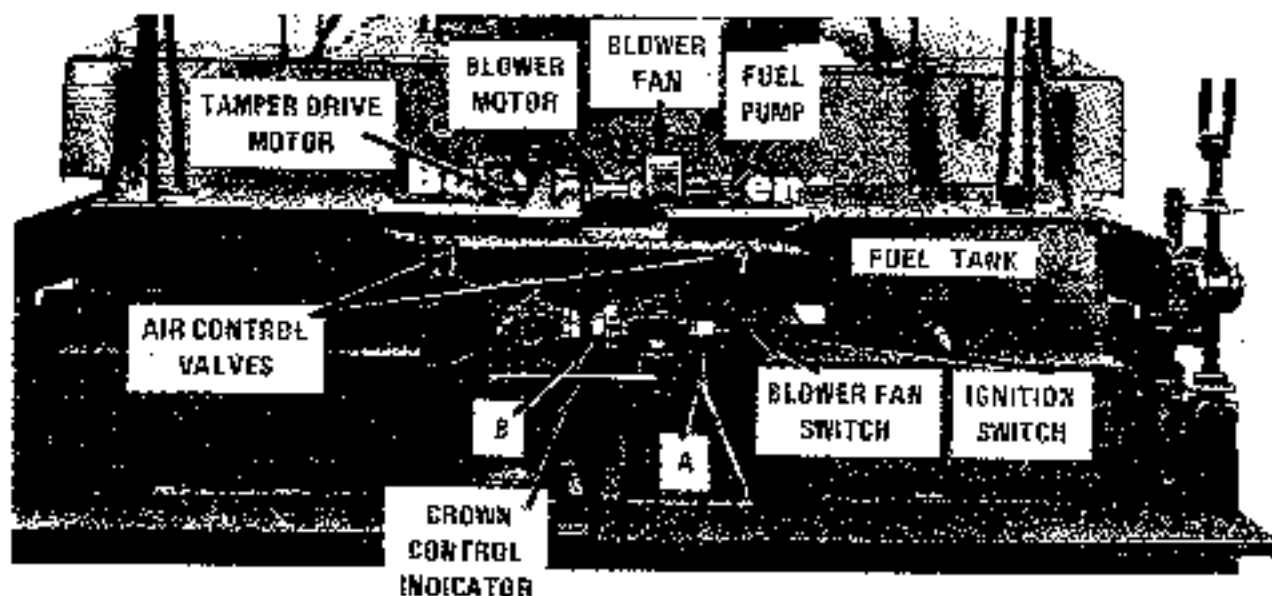

FIGURE C-7 - Screed Heater Controls And Crown Control
TO OPERATE SCREED HEATER (BLOWER, BURNER & BURNER IGNITER) (Refer to Figure C-7.)
For proper combustion in the burner, a #1 or #2 diesel fuel oil is recommended. (Preferably #1). The burner fuel is stored in the right hand tank on the screed unit. (Refer to Figure C-7.)
LIGHTING PROCEDURE (Refer to Figure C-7.)
2. Divert air away from side being lit, with air control valve, Figure C-7. This prevents the cooling of the glow plug and the flame blowing out.
1. Loosen lock nuts (A) Figure C-7, on the two screws at top center of screed.
2. Using crown adjusting wrench, turn nut (B) so that crown indicator, Figure C-7, raises to increase crown or lowers to decrease crown.